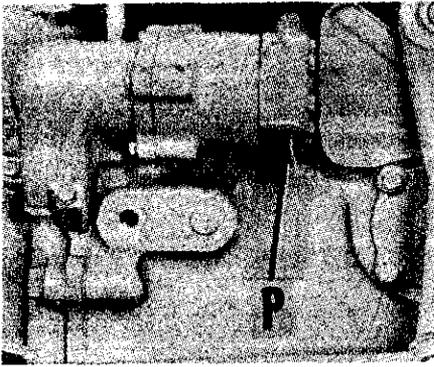

Fig. 415—Remove plug (P) to bleed piston type hydraulic pump. Refer to text for bleeding procedure.
**361.** To prime pump, proceed as follows: On diesel models, pull out the engine stop control; on gasoline models, remove distributor rotor or disconnect coil wire. Then, remove socket head plug (P—Fig. 415) from pump cover and turn engine with starter until oil flows from plug opening. Continue to turn engine with the starter until no air bubbles appear in the oil flowing from opening, then reinstall socket head plug while oil is still flowing and tighten plug securely.